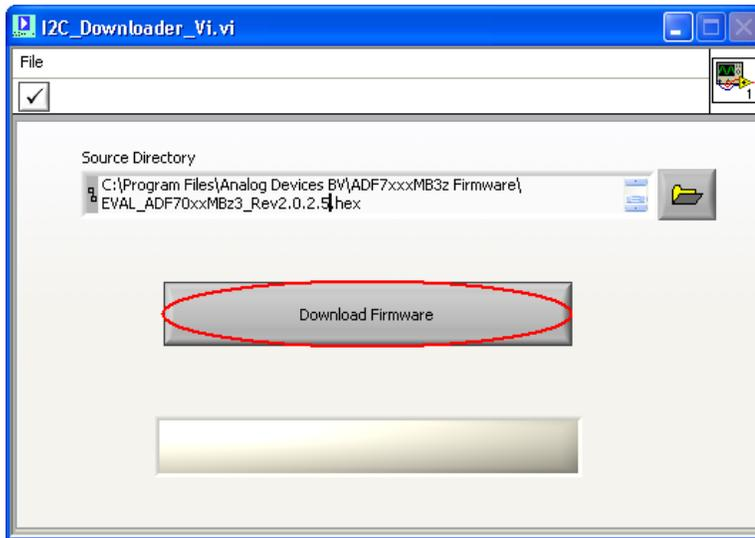

Figure 24
4. Click "***Download Firmware***" and follow the onscreen instructions (Figure 24).